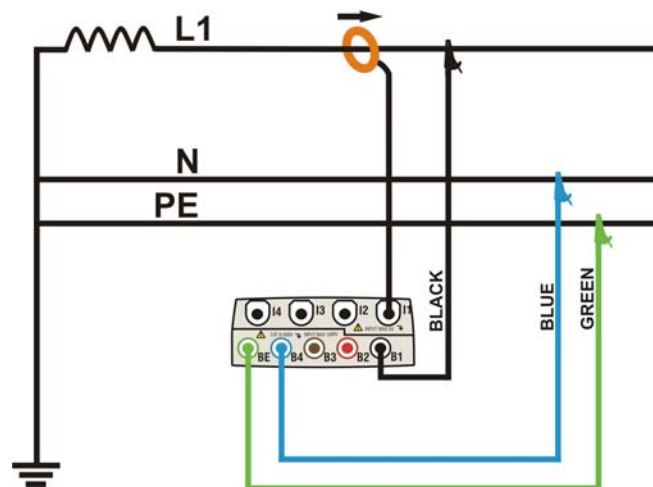

Fig. 204: Meter connection in a Single phase system
2. Connect voltage test leads on Phase, Neutral and Ground cables considering the colours as shown in Fig. 204).
3. Connect the transducer current clamp on L1 Phase cable as shown in Fig. 204) respecting the clamp's arrow direction indicating the current standard sequence from generator to load. **On Real Time Values' section screens always verify the positive value of Active Power and the power factor relative to load which should be normally inductive** before starting a recording. Reverse the clamp by 180 degrees on cables in case of negative readings.